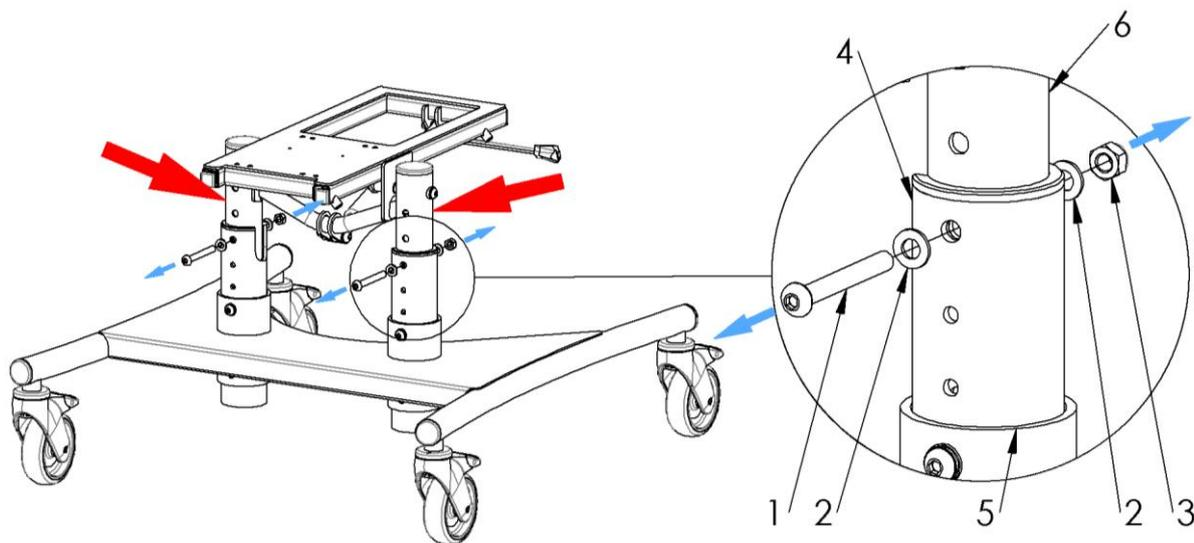
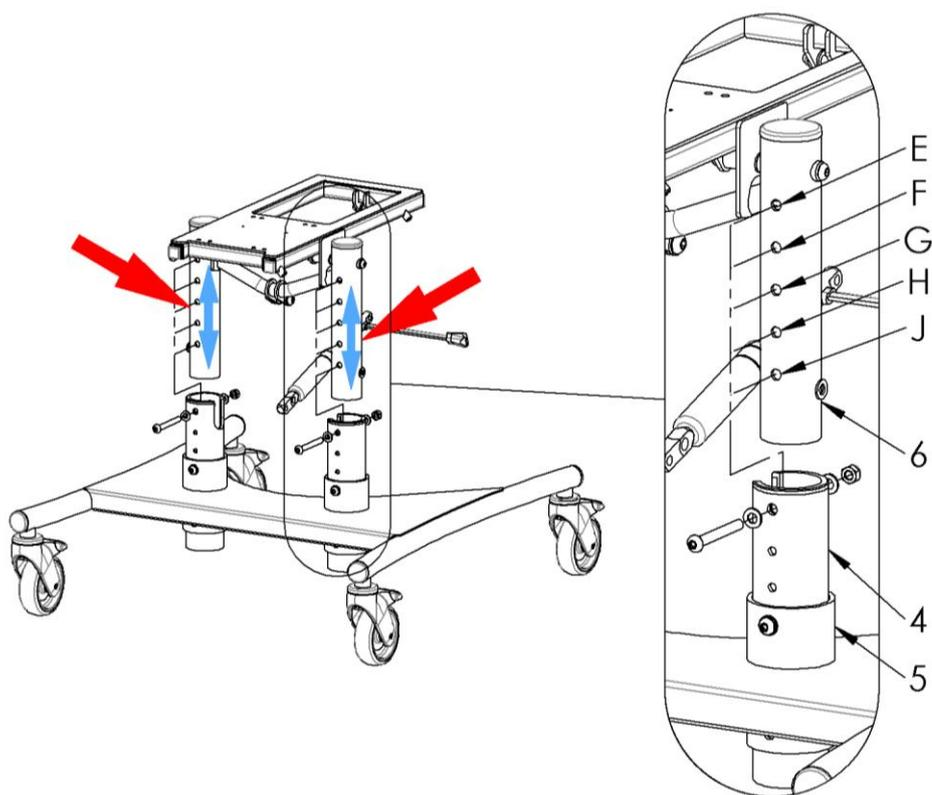

Fig. 13
Fig. 14
The second range allows adjustments in the range of 14cm, every 3,5cm Fig.13 and Fig.14. To achieve this, undo the screws (1) together with the washers (2) and the nut (3) from the bar (4) Fig.13. Next, set the height of the seat platform by properly setting the combination of slots in the platform bar (5) and the slot in the bar (4) Fig.14.